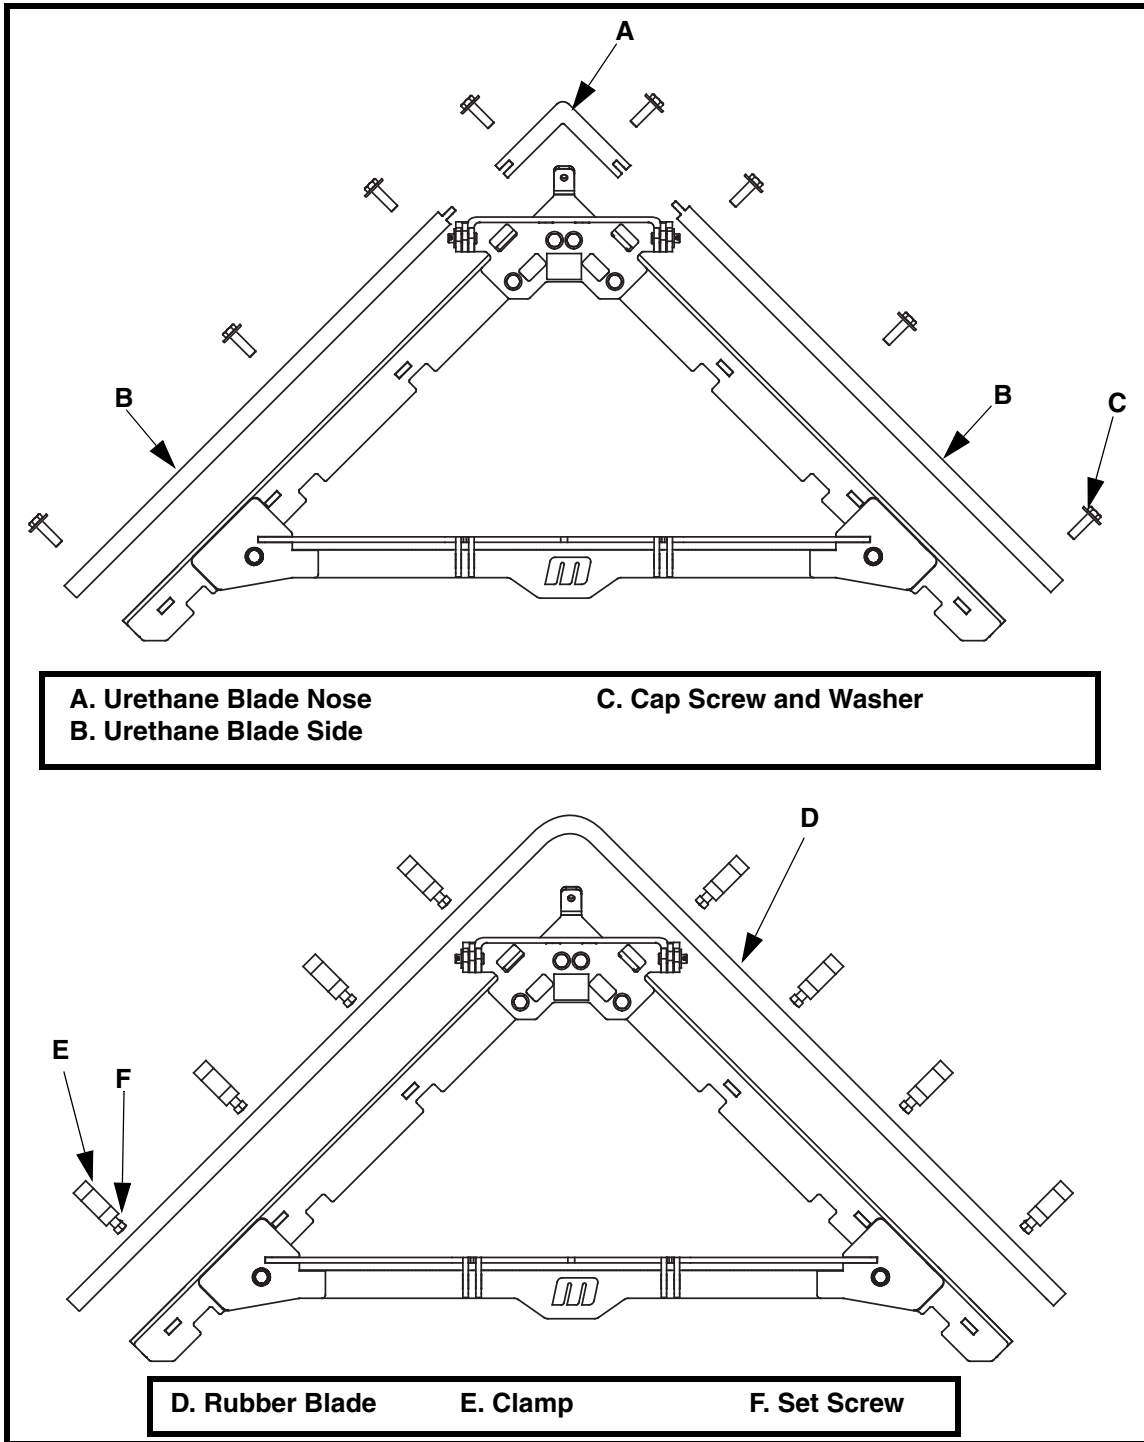

Figure 6. Installing Blade
3. Check the cleaning edge for wear. If it is worn almost to the frame weldment, replace as follows (see Figure 6):